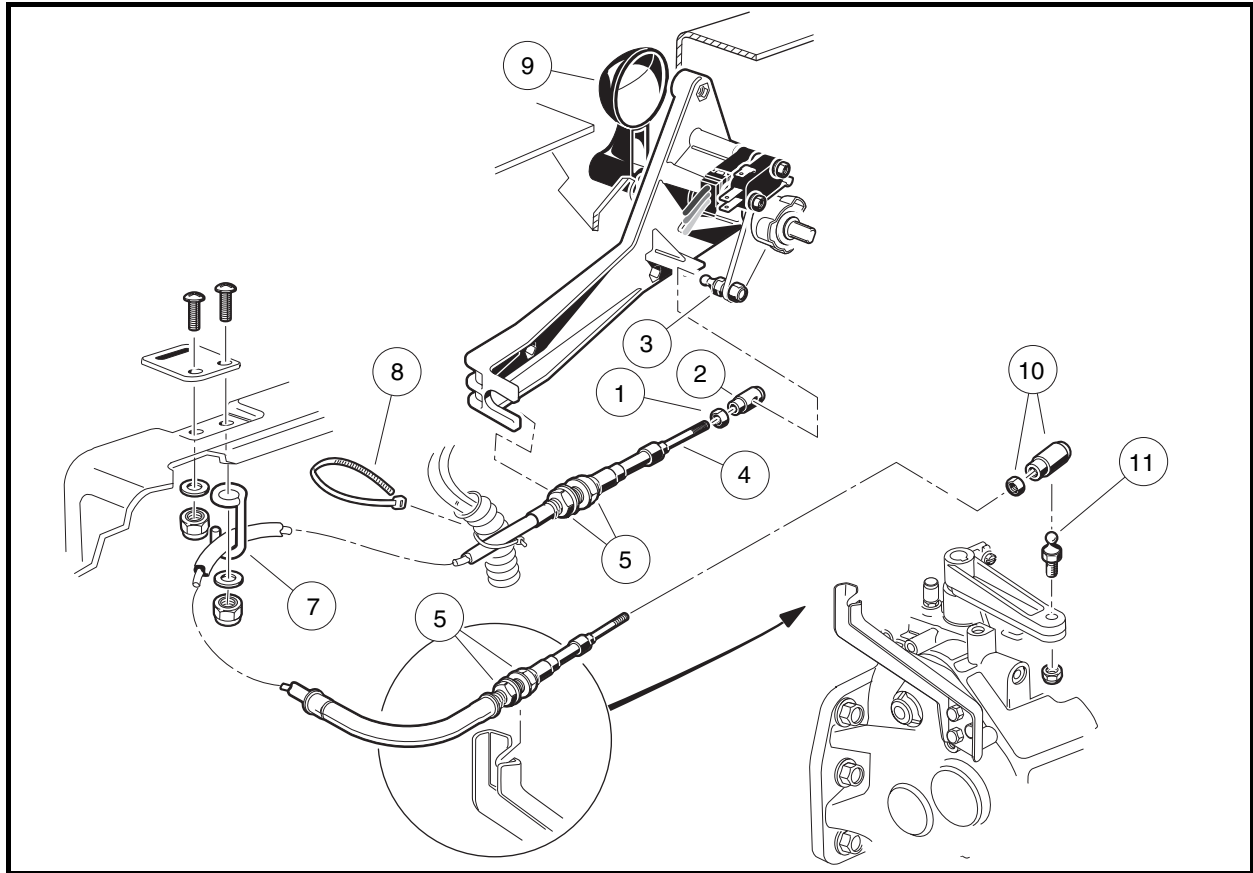
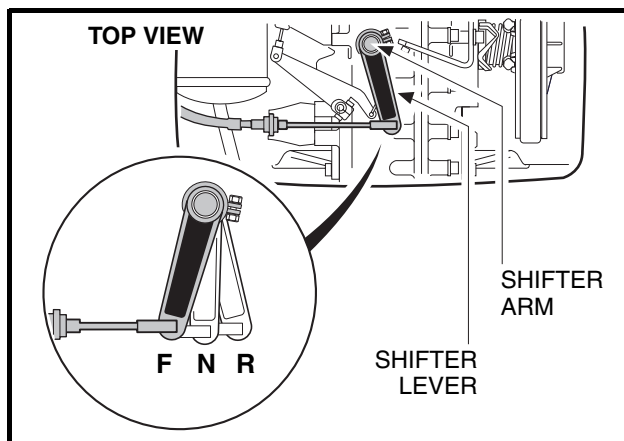

Figure 18-54 Forward/Reverse Shifter Cable
Figure 18-55 Forward/Reverse Positions
3. Remove the ball joint socket (2) from the Forward/Reverse shifter assembly ball stud (3) (**Figure 18-54, Page 18-21**).
4. Remove the ball joint socket (10) from the shifter arm ball stud (11) on the transaxle.
5. Loosen the retaining nuts (5) on both ends of the cable and remove the wire tie.
2. Secure the cable with a retaining nut (5) on each side of the shifter cable support bracket at the transaxle (**Figure 18-54, Page 18-21**). Tighten nuts to 22 ft-lb (29.8 N·m).
3. Secure the cable with a retaining nut (5) on each side of the shifter cable support bracket at the Forward/Reverse assembly. Tighten nuts to 43 in-lb (4.9 N·m).
4. Install the ball joint socket (10) on the shifter lever ball stud (11) on the transaxle.
5. Install the ball joint socket (2) on the Forward/Reverse shifter assembly ball stud (3) (**Figure 18-54, Page 18-21**).
6. Attach Forward/Reverse cable at cable retainer (7).
7. Install wire tie (8) to secure wire harness to cable at the support bracket near the Forward/Reverse shifter assembly. **See following WARNING.**
With the shifter lever of the unitized transaxle in the NEUTRAL position (**Figure 18-54, Page 18-21**), the Forward/Reverse handle (9) should be straight up. For minor adjustments, the nut (1) may be loosened and the ball joint socket (2) rotated to get the proper adjustment (**Figure 18-54, Page 18-21**). **See following CAUTION.**
For major adjustments, the cable retaining nuts (5) must be loosened and adjusted. When the cable is properly adjusted, with the Forward/Reverse handle (9) (Figure 18-54, Page 18-21) in the NEUTRAL position, the shift lever of the transaxle will also be in the NEUTRAL position (Figure 18-55, Page 18-21). Retighten nuts at the transaxle to 22 ft-lb (29.8 N·m); retighten nuts at the Forward/Reverse assembly to 43 in-lb (4.9 N·m).